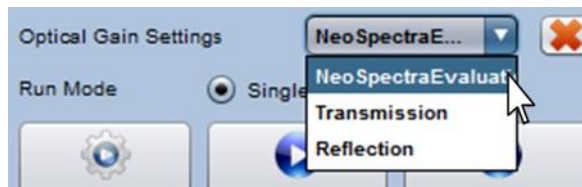

Figure 6.9: New optical gain settings created
8. The new optical gain setting should now appear in the “Optical Gain Settings” drop down list (see Figure 6.9).